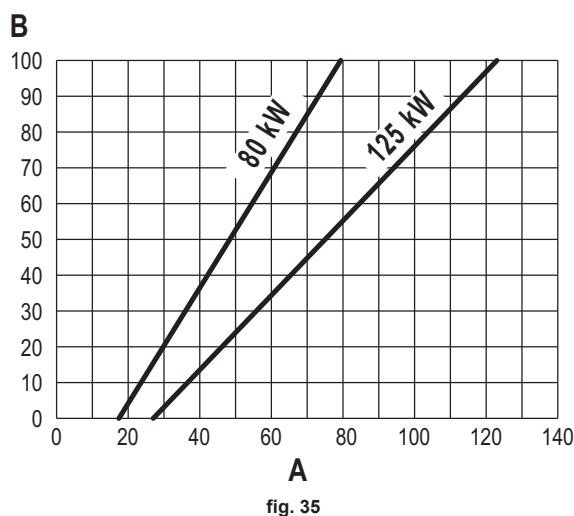

fig. 35
- Press the heating buttons (details 3 and 4 - fig. 1) to increase or decrease the power (min. = 00 - max. = 100). See the diagram "Heating Capacity Adjustment" (fig. 35).